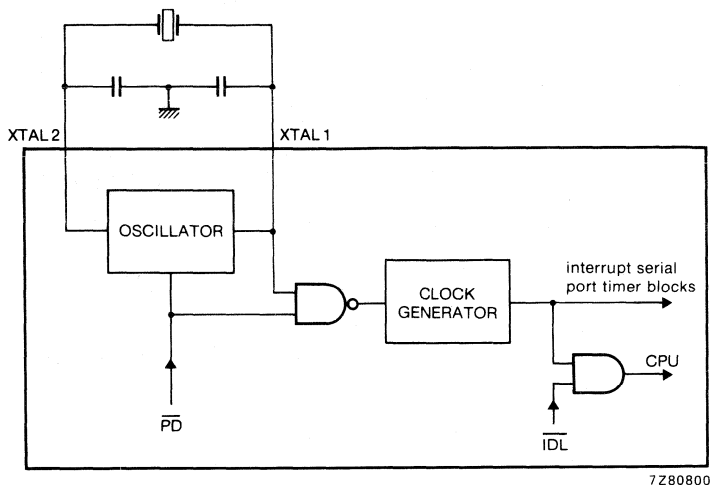

Fig. 6 Internal Idle and Power-down clock configuration.
**Idle and Power-down operation** (see Fig. 6)